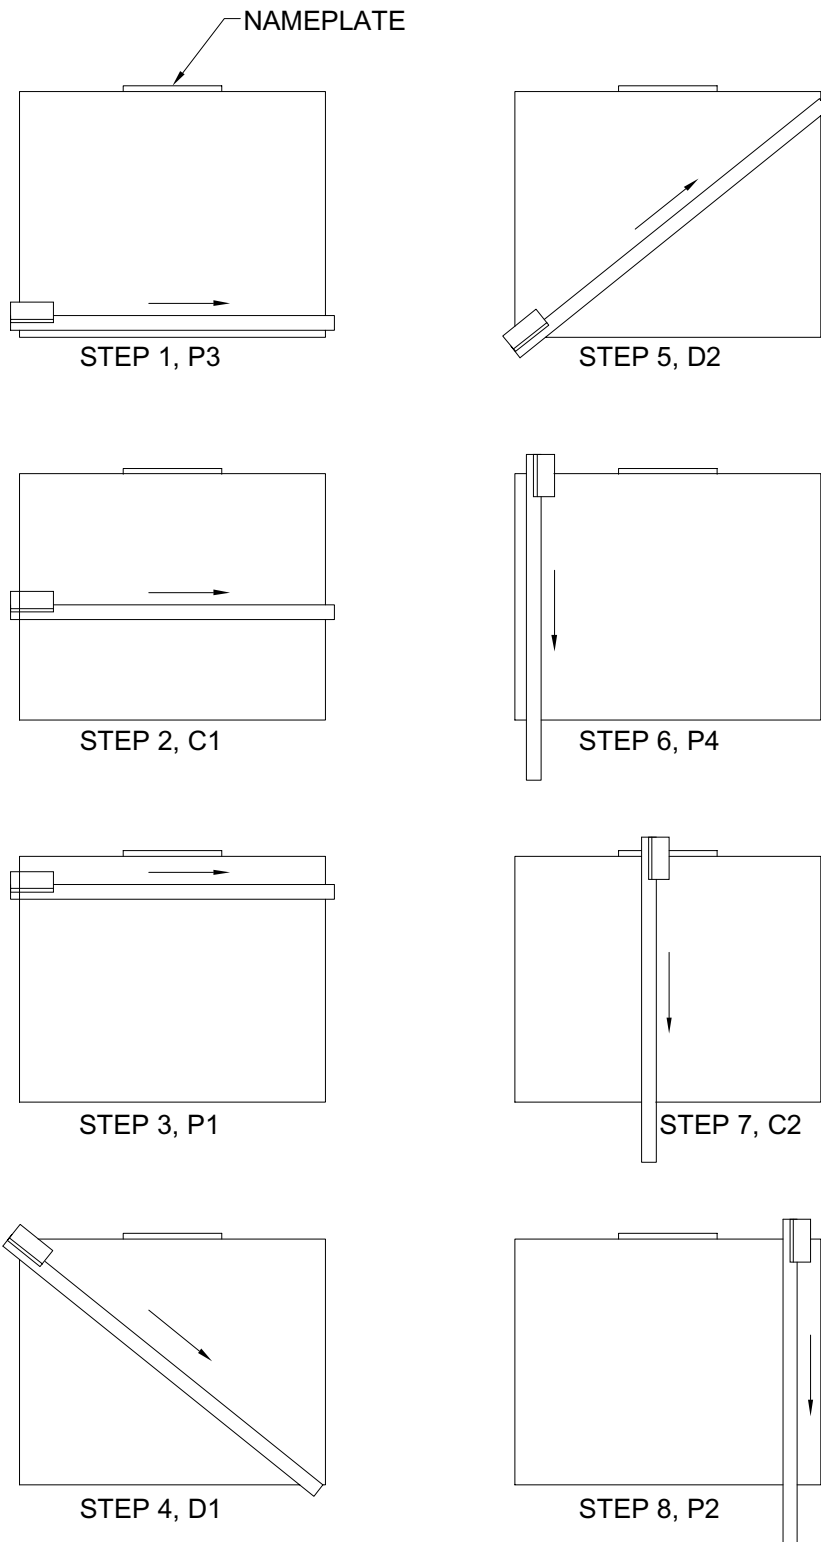

FIG. 9-4 SUGGESTED ROUTINE FOR MEASUREMENT
9. Repeat steps 7 and 8 until all (8) "lines" have been measured.
10. A suggested routine for a measurement is shown in Fig. 9-4.